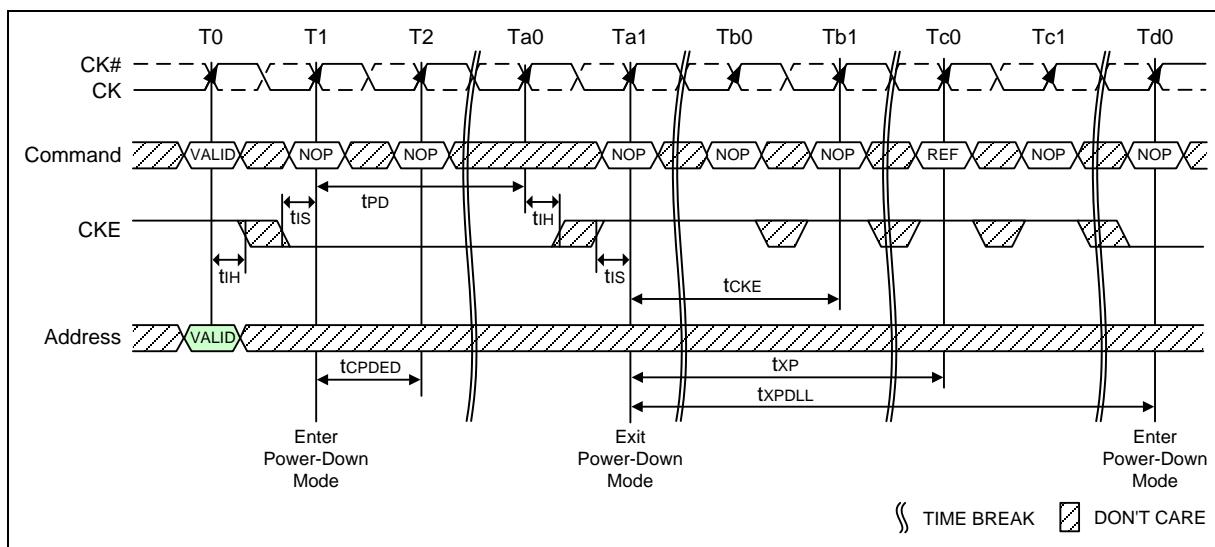

Figure 70 – Power-Down Entry/Exit Clarifications - Case 2
- 2) $t_{XP DLL}$ must be satisfied (referenced to the registration of PD Exit) before the next power-down can be entered. A detailed example of Case 2 is shown in Figure 70.